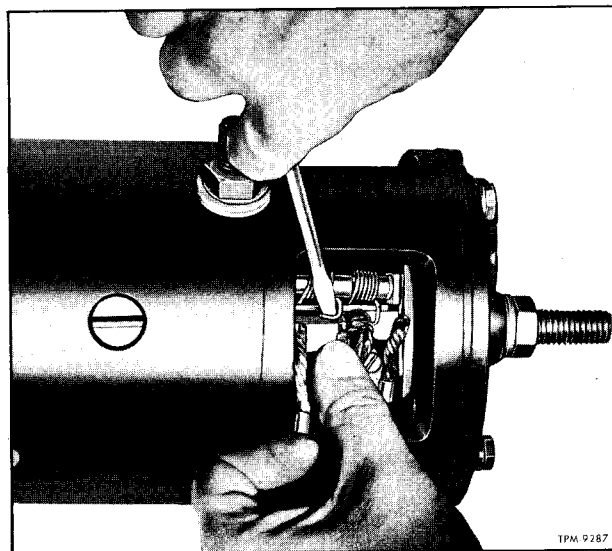

Figure 4—Removing Or Installing Brushes
4. Using a screwdriver as shown in figure 4, bend brush holder spring back and remove brush from holder.
1. Using screwdriver to bend brush holder spring as shown in figure 4, and with groove in